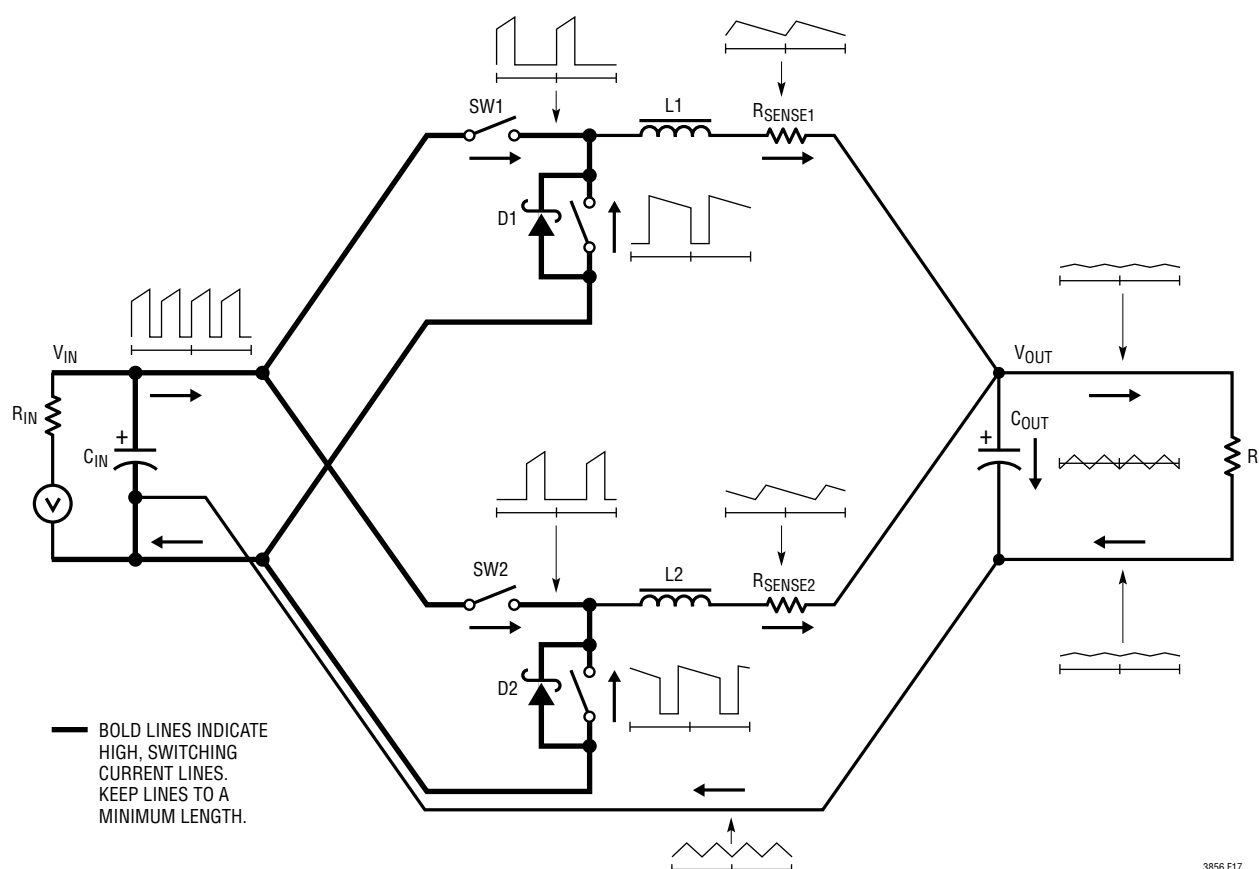

Figure 17. Instantaneous Current Path Flow in a Multiple Phase Switching Regulation
When laying out the printed circuit board, the following checklist should be used to ensure proper operation of the IC. These items are also illustrated graphically in the layout diagram of Figure 17. Check the following in the PC layout:
7. The 47pF to 330pF ceramic capacitor between the I_{TH} pin and signal ground should be placed as close as possible to the IC. Figure 17 illustrates all branch currents in a 2-phase switching regulator. It becomes very clear after studying the current waveforms why it is critical to keep the high switching current paths to a small physical size. High electric and magnetic fields will radiate from